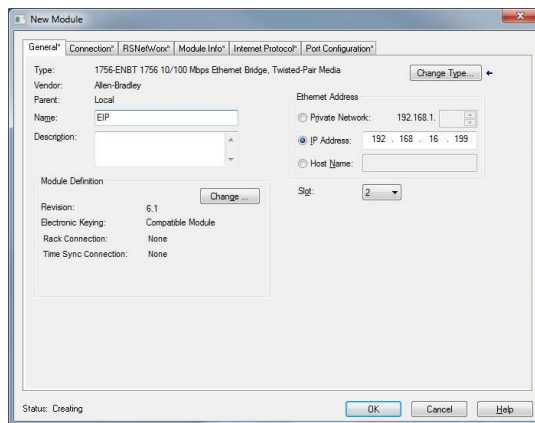

Figure 16: Identifying the New Module
- 6) The “New Module” window will open. Refer to Figure 16.